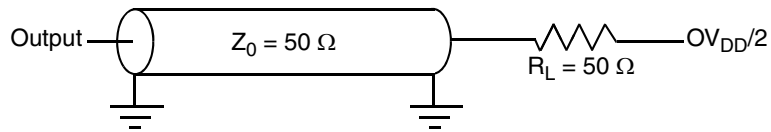
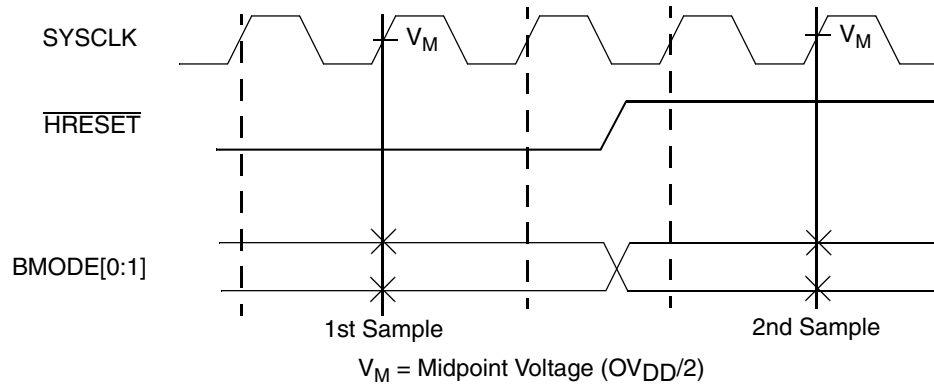
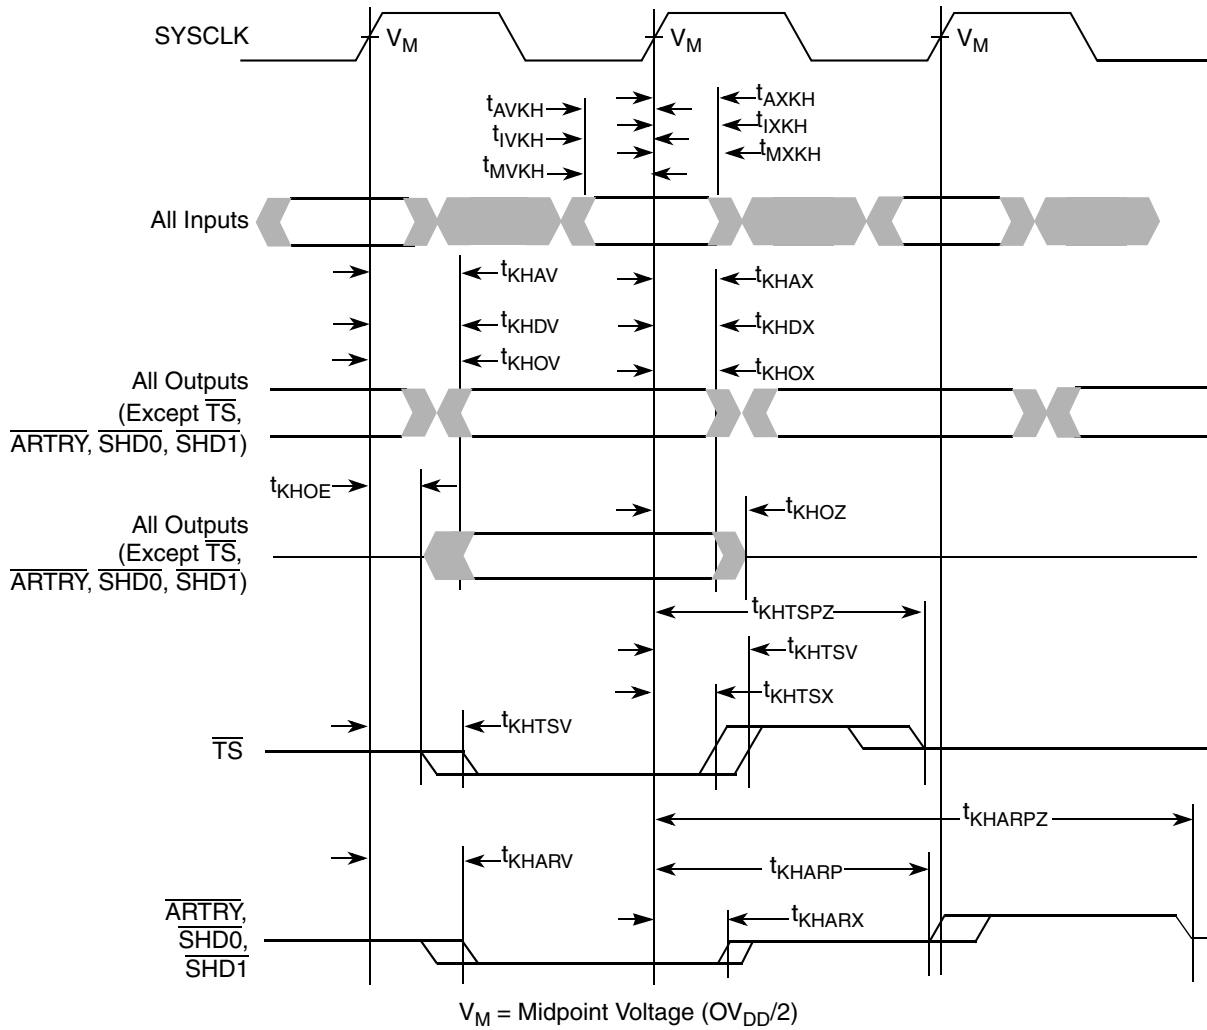

Figure 4. AC Test Load
Figure 5.  $\overline{\text{BMODE}}[0:1]$  Input Sample Timing Diagram
Figure 6. Input/Output Timing Diagram
Table 9 provides the processor bus AC timing specifications for the MPC7448 as defined in Figure 4 and Figure 5.
- All input specifications are measured from the midpoint of the signal in question to the midpoint of the rising edge of the input SYSClk. All output specifications are measured from the midpoint of the rising edge of SYSClk to the midpoint of the signal in question. All output timings assume a purely resistive 50- $\Omega$  load (see Figure 4). Input and output timings are measured at the pin; time-of-flight delays must be added for trace lengths, vias, and connectors in the system.
- The symbology used for timing specifications herein follows the pattern of  $t_{(signal)(state)(reference)(state)}$  for inputs and  $t_{(reference)(state)(signal)(state)}$  for outputs. For example,  $t_{IVKH}$  symbolizes the time input signals (I) reach the valid state (V) relative to the SYSClk reference (K) going to the high (H) state or input setup time. And  $t_{KHOV}$  symbolizes the time from SYSClk(K) going high (H) until outputs (O) are valid (V) or output valid time. Input hold time can be read as the time that the input signal (I) went invalid (X) with respect to the rising clock edge (KH) (note the position of the reference and its state for inputs) and output hold time can be read as the time from the rising edge (KH) until the output went invalid (OX).
- According to the bus protocol,  $\overline{TS}$  is driven only by the currently active bus master. It is asserted low and precharged high before returning to high impedance, as shown in Figure 6. The nominal precharge width for  $\overline{TS}$  is  $t_{SYSClk}$ , that is, one clock period. Since no master can assert  $\overline{TS}$  on the following clock edge, there is no concern regarding contention with the precharge. Output valid and output hold timing is tested for the signal asserted. Output valid time is tested for precharge. The high-impedance behavior is guaranteed by design.
- According to the bus protocol,  $\overline{ARTRY}$  can be driven by multiple bus masters through the clock period immediately following  $\overline{ACK}$ . Bus contention is not an issue because any master asserting  $\overline{ARTRY}$  will be driving it low. Any master asserting it low in the first clock following  $\overline{ACK}$  will then go to high impedance for a fraction of a cycle, then negated for up to an entire cycle (crossing a bus cycle boundary) before being three-stated again. The nominal precharge width for  $\overline{ARTRY}$  is  $1.0 t_{SYSClk}$ ; that is, it should be high impedance as shown in Figure 6 before the first opportunity for another master to assert  $\overline{ARTRY}$ . Output valid and output hold timing is tested for the signal asserted. The high-impedance behavior is guaranteed by design.
- $BMODE[0:1]$  and  $BVSEL[0:1]$  are mode select inputs.  $BMODE[0:1]$  are sampled before and after  $\overline{HRESET}$  negation.  $BVSEL[0:1]$  are sampled before  $\overline{HRESET}$  negation. These parameters represent the input setup and hold times for each sample. These values are guaranteed by design and not tested.  $BMODE[0:1]$  must remain stable after the second sample;  $BVSEL[0:1]$  must remain stable after the first (and only) sample. See Figure 5 for sample timing.
Figure 4 provides the AC test load for the MPC7448.
Figure 5 provides the  $\overline{\text{BMODE}}[0:1]$  input timing diagram for the MPC7448. These mode select inputs are sampled once before and once after  $\overline{\text{HRESET}}$  negation.
Figure 6 provides the input/output timing diagram for the MPC7448.